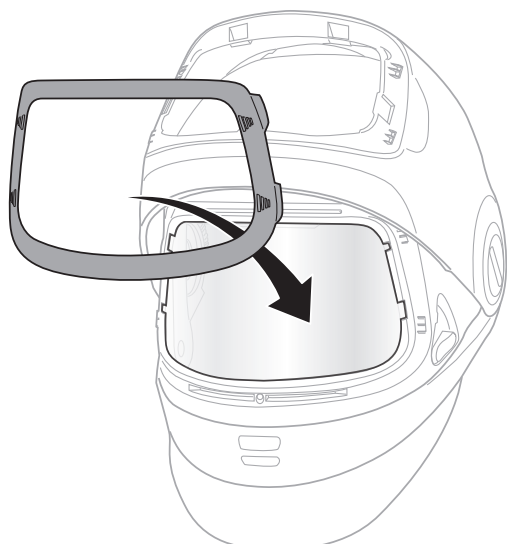

Fig. 12e
- d. To reinstall the grinding visor frame, place it over the grinding visor and snap it into place at all four corners using firm pressure from your thumb or index finger (Fig. 12e and 12f).